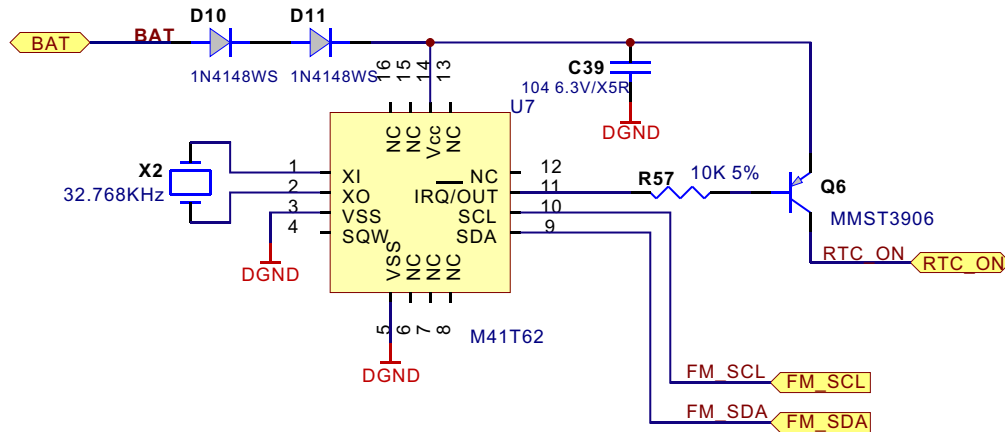

Figure 3.2.13.1 RTC circuit diagram
1. To maintain normal function of clock and auto power-on, this player is with RTC circuit, shown in the figure 3.2.13.1: